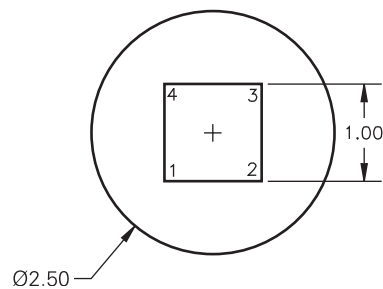

Fig. 31-2
4. Create the drawing of the end view of a shaft with a square pocket machined into it (Fig. 31-2). Use the following guidelines: